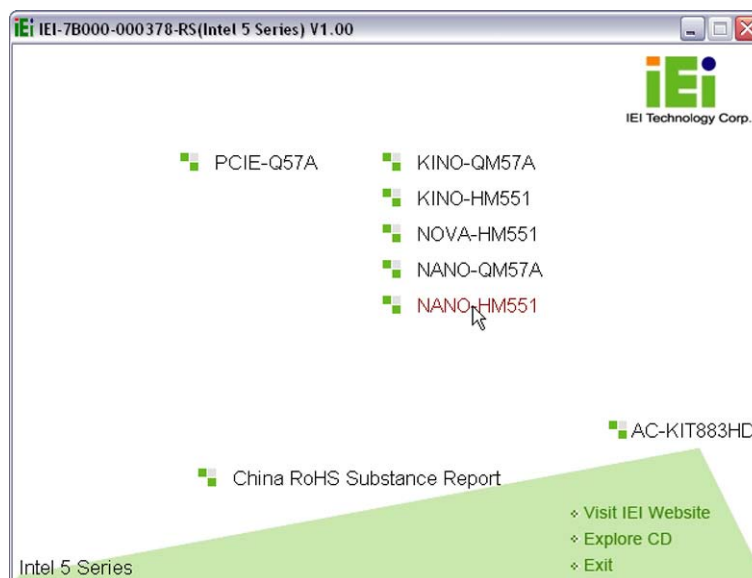

Figure 4-22: Introduction Screen
Step 2: The driver main menu appears (**Figure 4-22**).